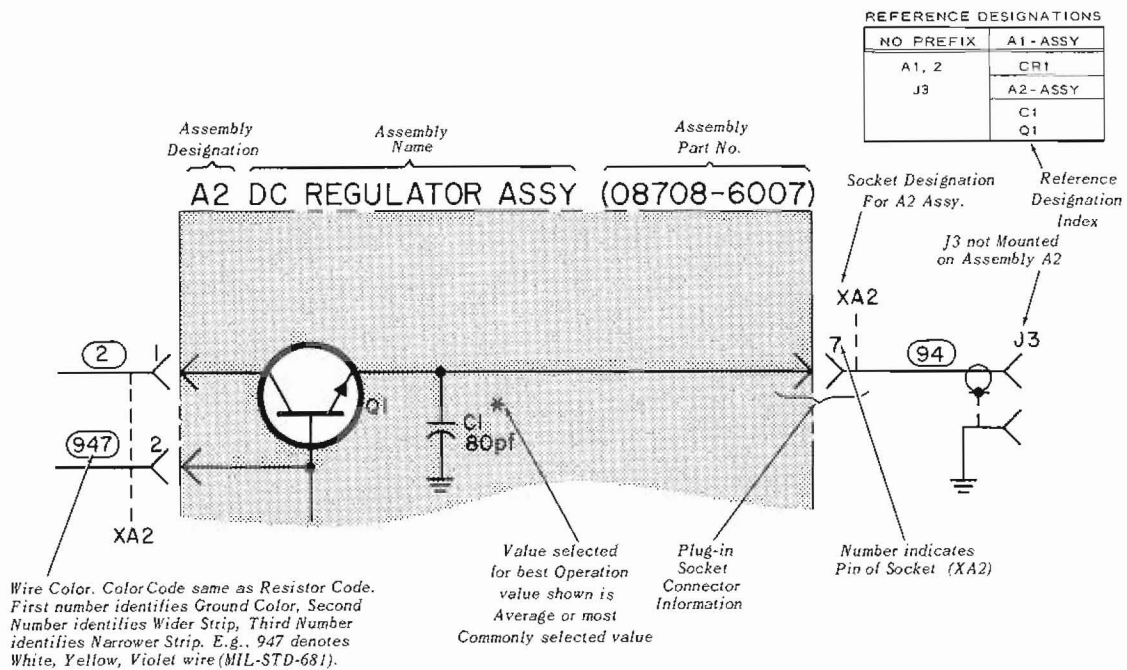

Figure 7-1. General Information on Schematic Diagrams
7-2. Schematic presentations in this manual show electrical circuit operation and are not intended to serve as wiring diagrams. Figures 7-1 and 7-2 list notes which apply to the schematic diagrams.
1. SEE FIG.7-1 FOR GENERAL NOTES, MEASUREMENT CONDITIONS
1. SEE FIG. 7-1 FOR GENERAL NOTES,